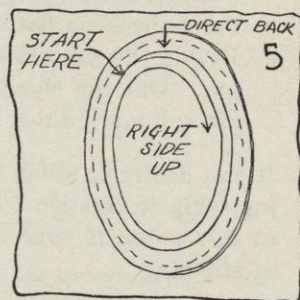

FIG. 5.
- Continue stitching exactly along the beginning of the stitching for about $\frac{1}{2}$ inch and then very gradually run off to the second row of stitching which should be $\frac{1}{8}$ inch from the first row (more or less as desired) (see Figure 5). Half of the presser foot of the machine is a good guide with which to space the stitching. **The material must not pucker between the rows of stitching.** If you are careful, the starting point of the stitching will not show.